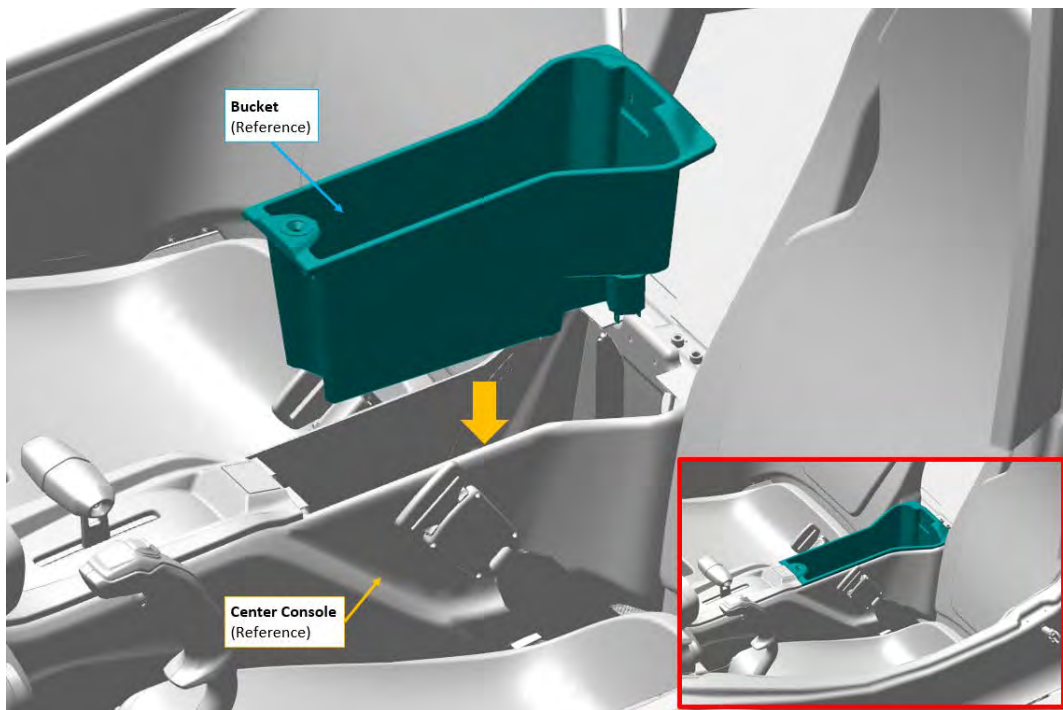

FIGURE 9-5
3. Lift the center console bucket, disconnect the electrical connections and remove. Label the wires for later installation. The connections are: cigarette lighter connectors – T9117(+) and T9119(-); USB power connectors – T9120(-) and T9116 (+); Aux audio in jack – D9063P. See Figure 9-5.
2. Install center console bucket. See Figure 9-5.